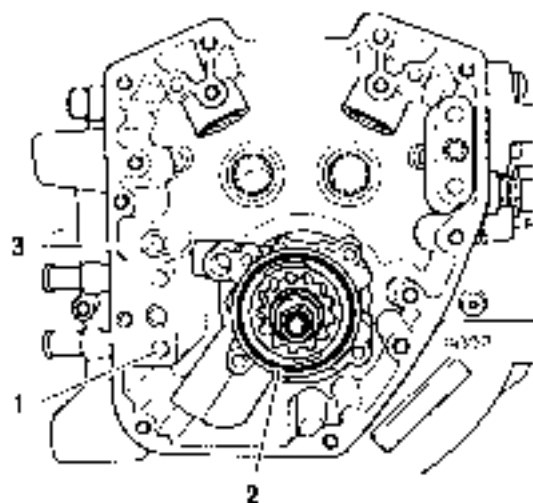

Figure 3-58. Oil Pump O-rings
- 14 See Figure 3-58. Remove O-ring (1) from groove around oil feed hole in crankcase flange. Discard O-ring.
- 15 Remove and discard O-ring (3) from crankcase post.
2. See Figure 3-58. Remove O-ring (2) from outboard side of oil pump housing. Remove O-ring from scavenge port stub. Discard O-rings. See 3-28 OIL PUMP for inspection and repair information.